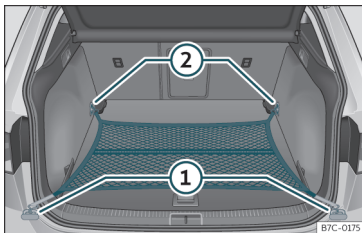

Fig. 111 In the luggage compartment: net bag hooked up at floor level.
- Secure the net hooks to the fastening rings ① and ② >>> **Fig. 111** >>> ⚠. The bag zip should be facing upwards.